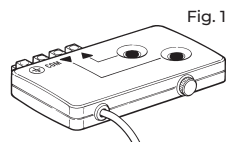

Fig. 1
- All the programming and adjustment operations must be carried out with the Nice TTU programmer (fig. 1). Alternatively you can also use a two-button push button panel, as long as this allows you to press the two buttons at the same time and allows the buttons to return to their previous position, when they are released.